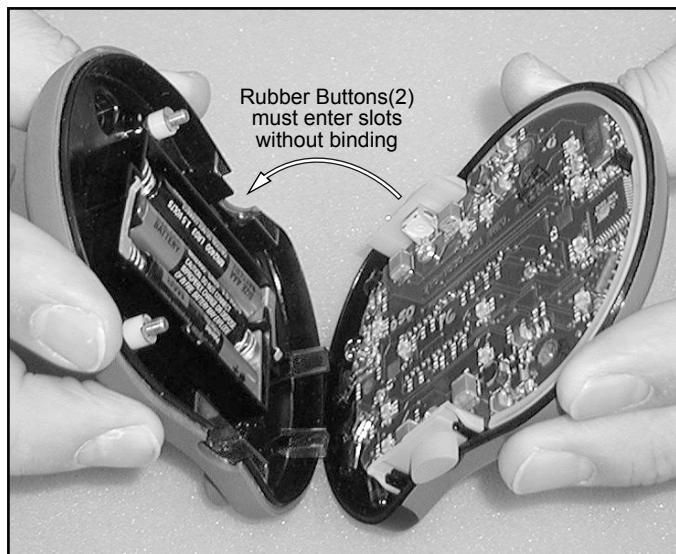

Figure 4-1. Remote Control Battery Replacement
- 2 Replace old batteries and replace cover (correct battery positions are identified inside each battery slot). When closing the cover it is important that the rubber buttons slide into the slots in other half of the remote without binding (see Figure 4-1).